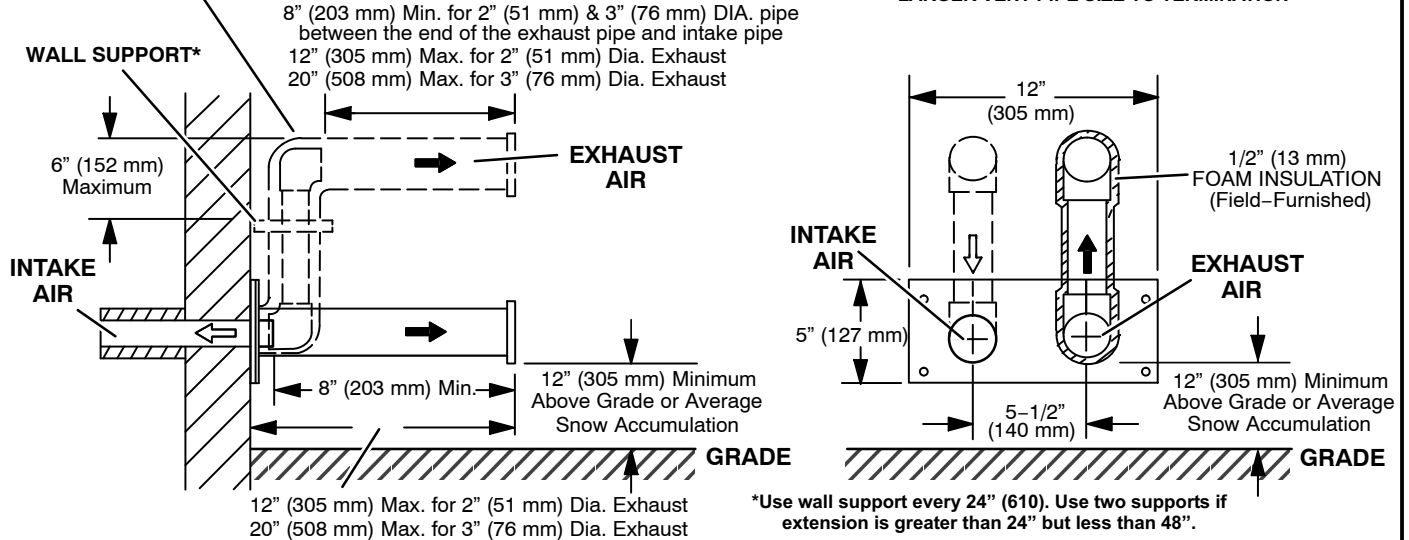

FIGURE 38
- If intake and exhaust piping must be run up a side wall to position above snow accumulation or other obstructions, piping must be supported every 24" (610mm) as shown in figures 29 and 31. In addition, close coupled wall termination kits must be extended for use in this application. See figures 38 and 39. When exhaust and intake piping must be run up an outside wall, the exhaust piping must be terminated with pipe sized per table 7. The intake piping may be equipped with a 90° elbow turndown. Using turndown will add 5 feet (1.5m) to the equivalent length of the pipe.